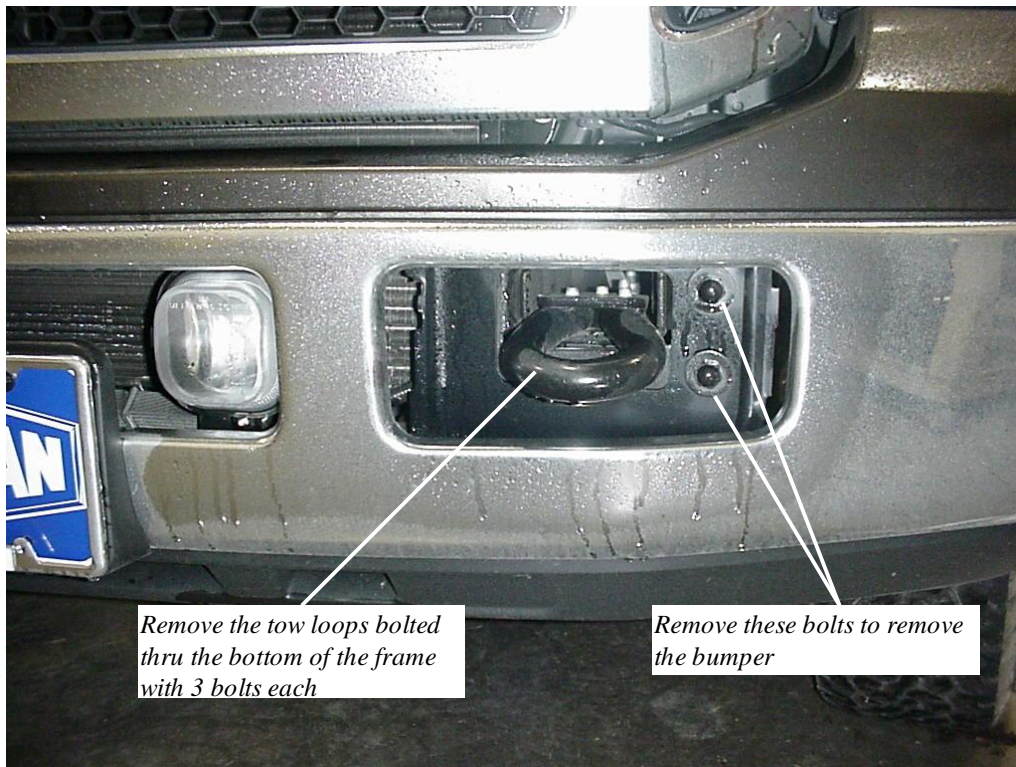

Figure 3 Front of bumper, LH
3. Remove the front bumper. **See Figure 3**
4. Remove the three(3) bolts that secure each tow loop to the frame and remove the tow loops.